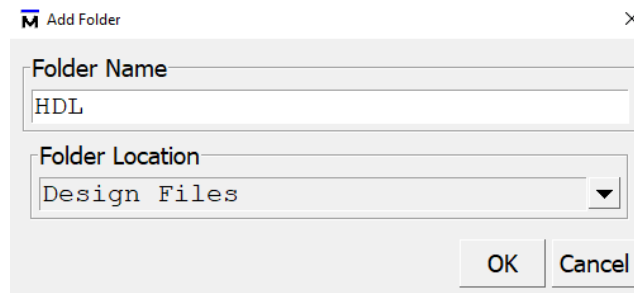

Figure 45
- b. Type **HDL** in the **Folder Name** field (Figure 45).